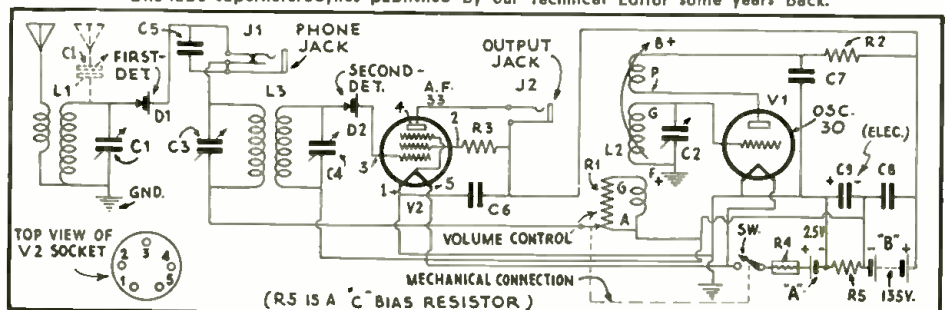

Fig. 2
**DEAR BEGINNER:** do not let the high-falutin' title scare you. It is a contraction of the even longer technical designation, "supersonic heterodyne"; and simply means that the action on which the circuit depends for its operation, and which we will describe, takes place at a frequency which is beyond audibility. Maximum sensitivity and selectivity are obtained through the use of the superheterodyne principle. Only one tube, or oscillator, V1 in Fig. 2, is required to obtain this action; V2 is only an A.F. amplifier.